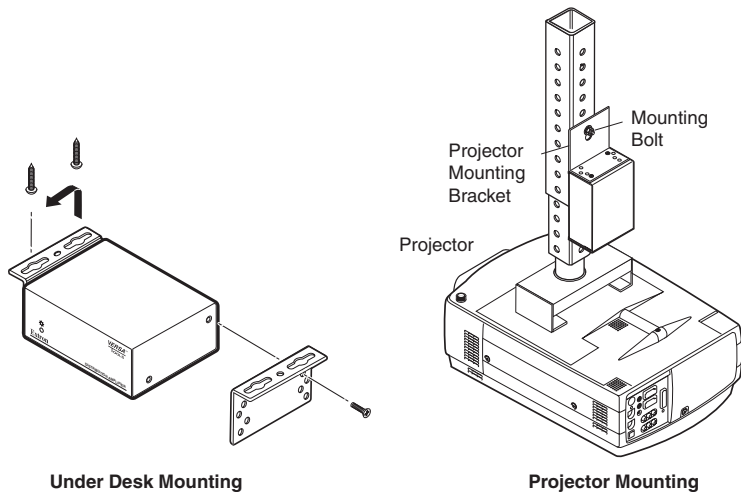

Figure 5 — Desk and projector mounting the MDAs
1. Attach the mounting brackets to the MDA with the machine screws provided (figure 5).